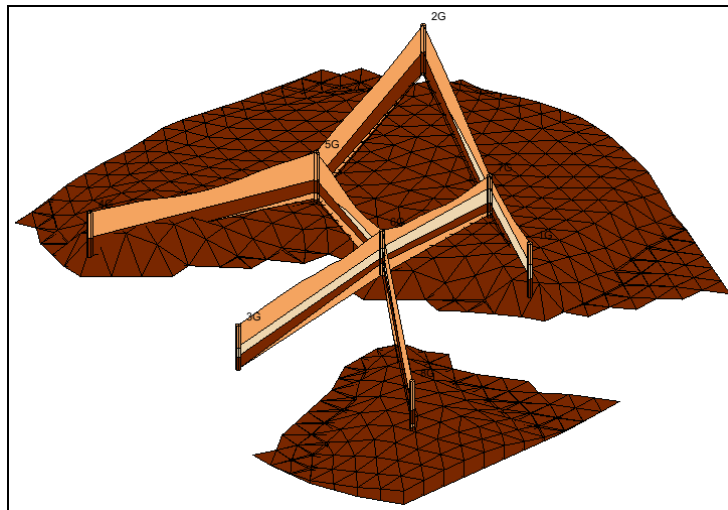

Figure 9 Silty_Clays 1 solid created with the conceptual model
2. In the “solids (3)” folder, turn on the “Silty_Clays 1” solid. Notice the area that it covers (Figure 9).